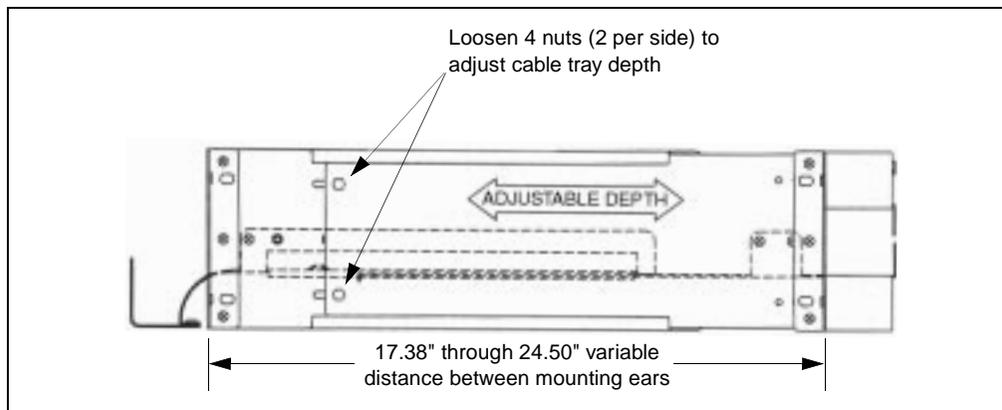

Figure 4 - Adjusting the Depth of the Cable Management Tray
1. Loosen the four hex nuts (two on each side) near the front sides of the cable management tray's mounting braces (see Figure 4).